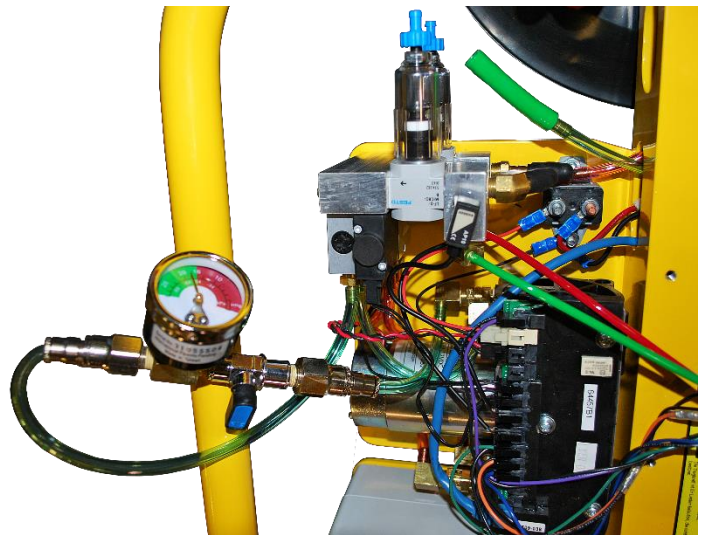

FIGURE 7
See **FIGURE 7**.
- 5) Close the ball valve (handle turned perpendicular to the valve) and observe the vacuum gauge. See **FIGURE 7**.